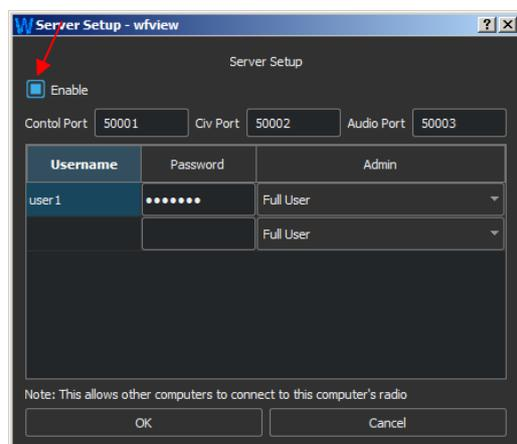

**Figure 5: Settings server PC**
Download the software "wfview.exe" for Windows (x86) from <https://wfview.org/download>, install it on the **server PC** and start it. I use the software **Windows (x86) release v1.2d**. Go to **Settings** (**Figure 5**) and enter the following data (red bordered field):
- To run the software on the client PC, the server PC (see Fig. 5) must be started first!